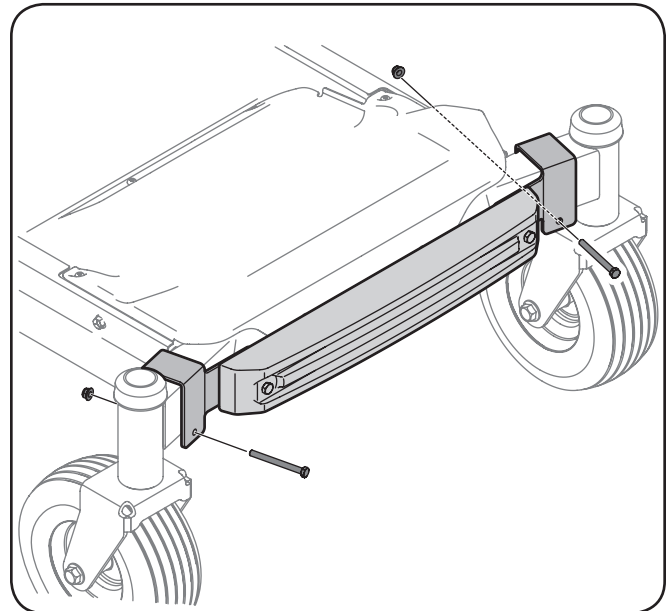

Figure 4-27
2. Attach the weight bar assembly to the front axle with a 3 1/4-inch (710-3056) screw and (712-04063) flange nut from hardware pack 689-00325 on the left side. Repeat on the right side. Do not fully tighten at this time. See Figure 4-27.